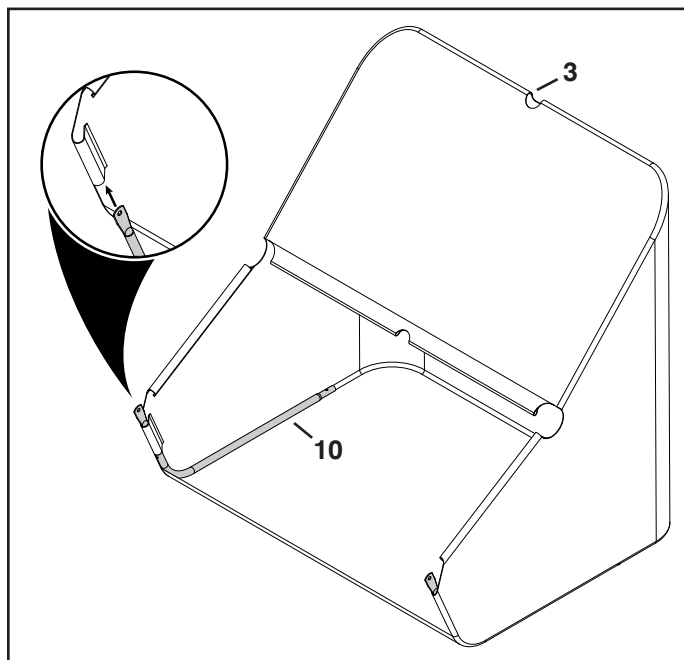

FIGURE 7
9. Slide ends of two lower hopper tubes (10) into the flaps at the front of the hopper bag (3) as shown in figure 7.